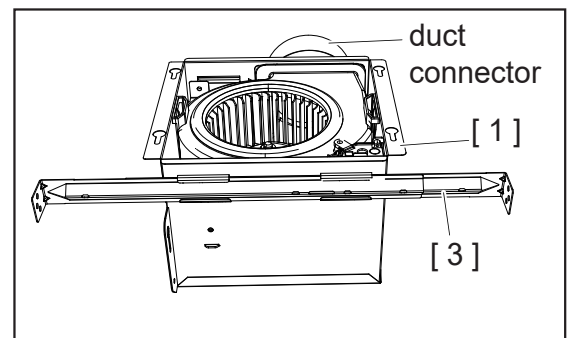

Fig 13
1. Insert two Long Brackets [3] to the slot at the backside of Fan Body [1] as figure shows. (Fig 13)